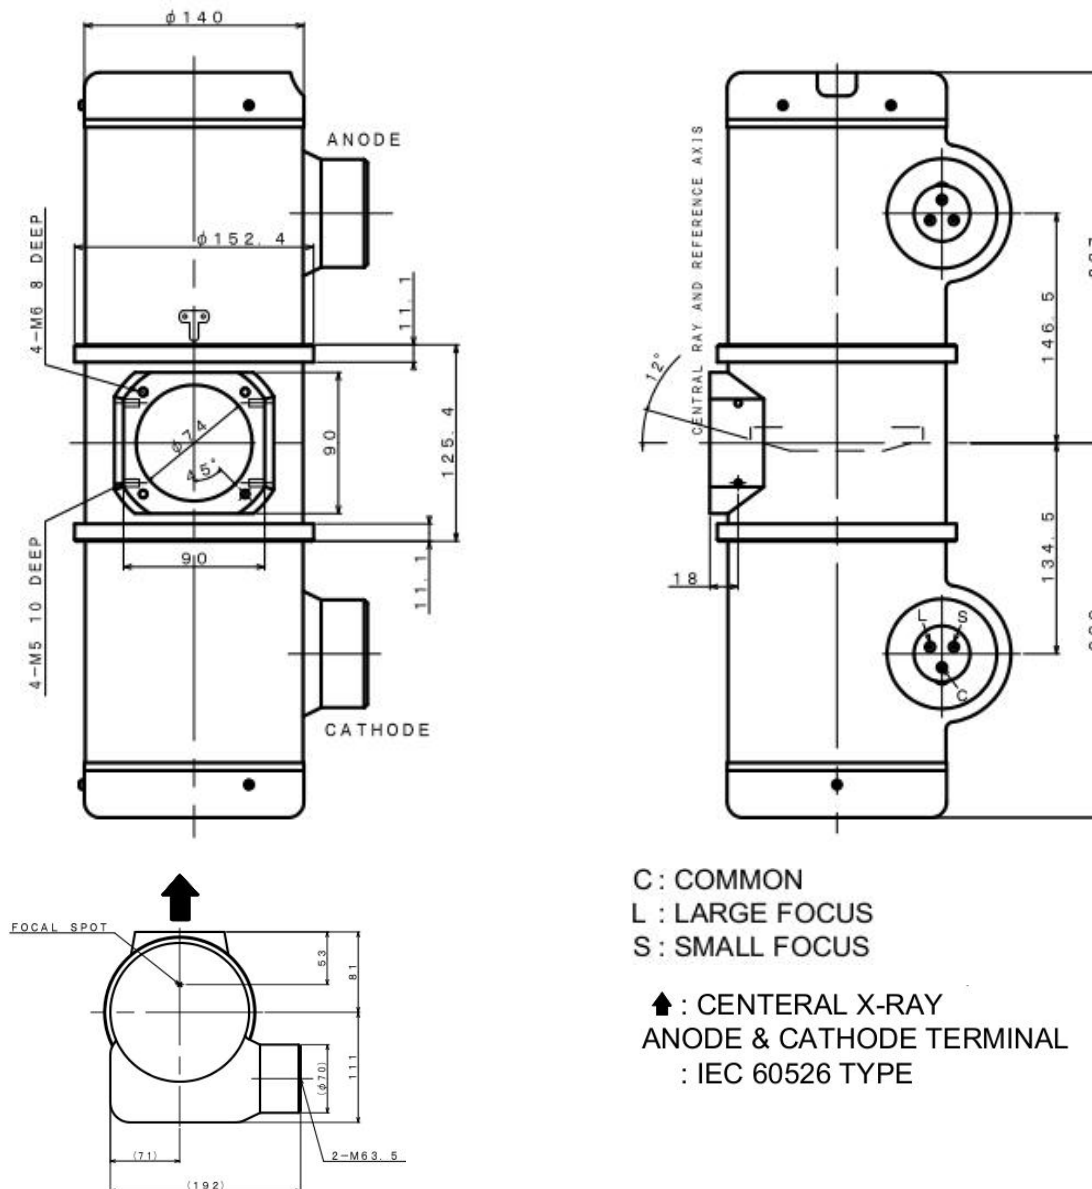

Figure 2-6 Outline drawings
- 20. Refer to Figure 2-6 for overall dimensions of assembly.